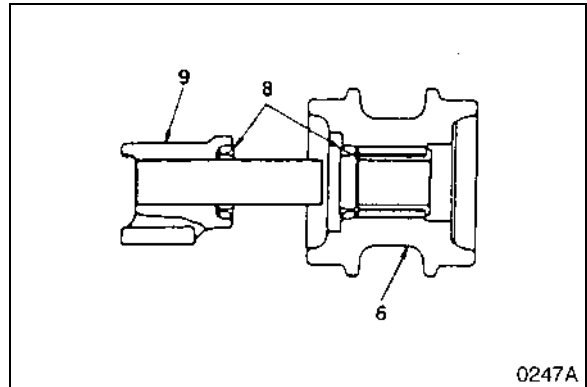

Figure 47
2. Insert group seal (8, Figure 47) into the roller (6) and bushing.